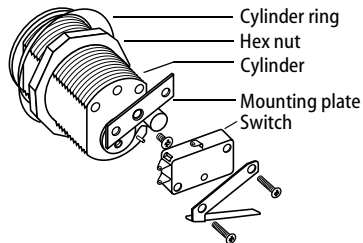

Figure 2 Disassembling switch lock, 1W7B3 shown
- Remove the switch from the mounting plate as shown in Figure 2.
- Remove the mounting plate from the cylinder. See Figure 2.
- Remove the hex nut and cylinder ring. See Figure 2.